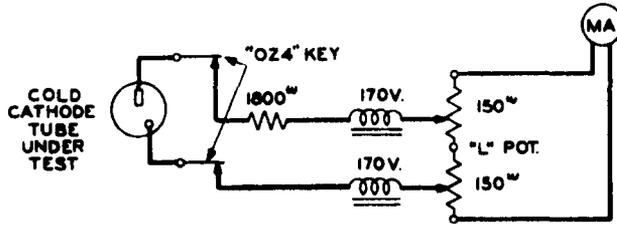

Fig. 5 - Cold Cathode Tube Test Circuit
2.21 When testing a cold cathode tube, the circuit (Fig. 5) is the same as described in Paragraph 2.19 except that both windings of the rectifier transformer are employed in series, applying an a-c potential of 340 volts in series with a current limiting resistor to the tube under test.